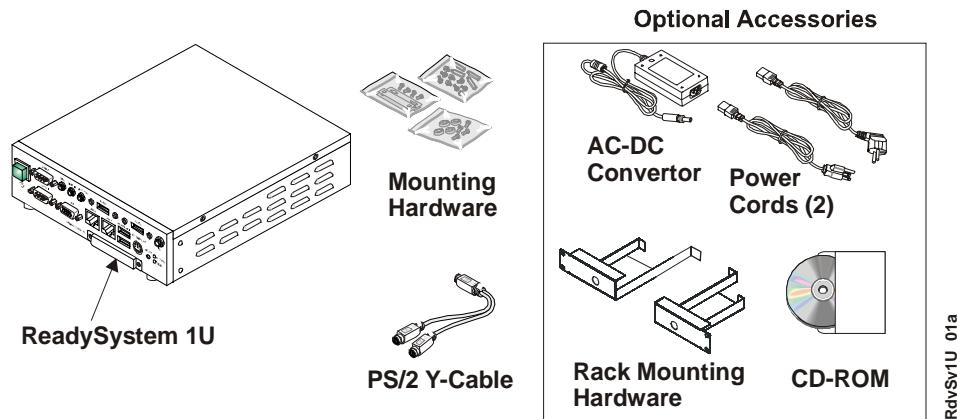

Figure 1-1. ReadySystem 1U Accessories
The Contents List identifies items in the shipping container of the ReadySystem 1U QuickStart Kit. Production quantities of the ReadySystem 1U, except for the first of multiple boxes, may not contain all of the optional items listed for the QuickStart Kit, but all boxes will have the standard items such as the mounting hardware and the PS/2 Y-cable. The optional items, such as the power adapter, power cords, and rack mount kit may be shipped separately. See Figure 1-1.
1) Open shipping box	<ul style="list-style-type: none"> Locate the ReadySystem 1U Contents List. See Figure 1-1. Unpack the contents of the shipping box.
3) Support Documentation (ReadyBoard model Documentation and Support Software (Doc & SW) CD-ROM located in the first QuickStart Kit)	<p>ReadySystem 1U Users Guide This document describes how to setup and power up the ReadySystem 1U and is provided on the ReadyBoard model Doc & SW CD-ROM as a PDF file.</p> <p>ReadyBoard Model Reference Manual This document describes the ReadyBoard model used in the ReadySystem 1U enclosure and provides detailed reference information for your ReadyBoard and is located on the ReadyBoard model Doc & SW CD-ROM as a PDF file</p> <p>ReadyBoard Model QuickStart Guide This document describes how to setup, install, and power up the ReadyBoard model installed inside the ReadySystem 1U enclosure and is located on the ReadyBoard model Doc & SW CD-ROM as a PDF file.</p> <p>Operating System Manual(s) These documents describe how to use the desired operating system (OS) with the ReadySystem 1U and provide more detailed programming and operating information. These documents may or may not be provided with ReadySystem 1U depending on the specific licensing requirements.</p>